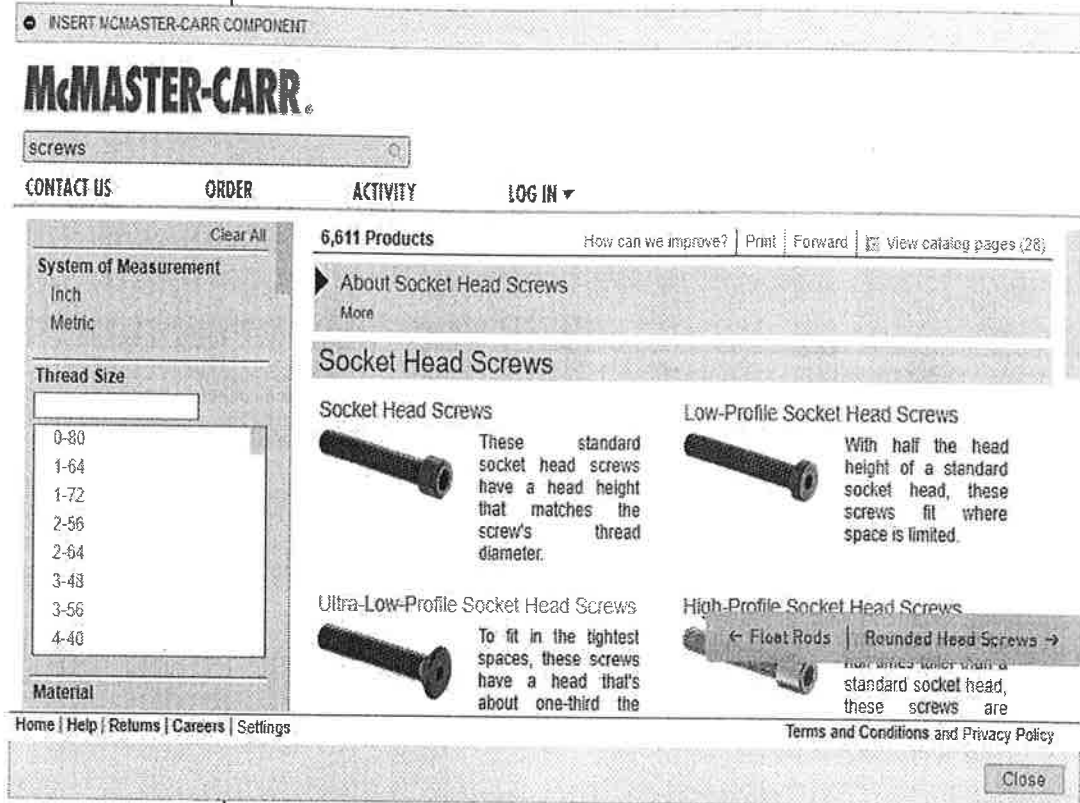

Figure 14–44
4. In the Screws list, select the **Socket Head Screws** category. The palette updates as shown in Figure 14–44.